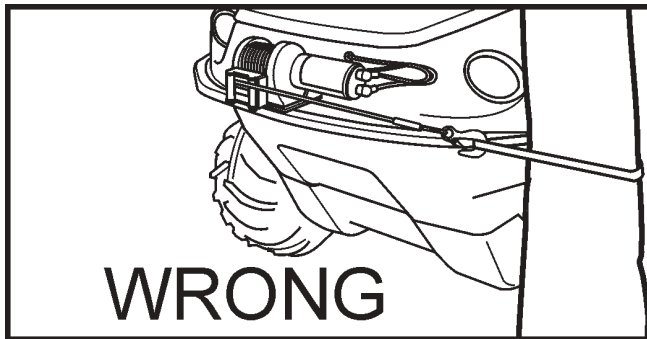

Figure 11-25. Incorrect positioning for continuous pulls.
11. Avoid continuous pulls from extreme angles as this will cause the wire rope to pile up at one end of the drum (Figure 11-25 & Figure 11-26). This can jam the wire rope